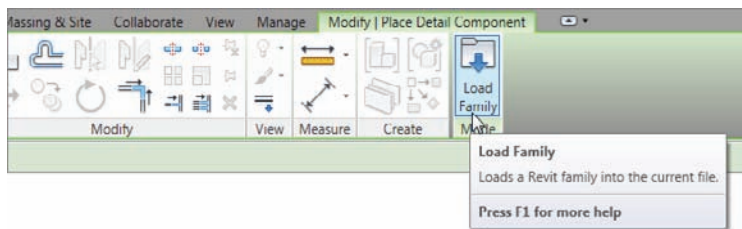

FIGURE 12.4 The Load Family button on the Mode panel of the Modify | Place Detail Component tab
2. On the Detail panel of the Annotate tab, click Component > Detail Component, and then click the Load Family button as shown in Figure 12.4.